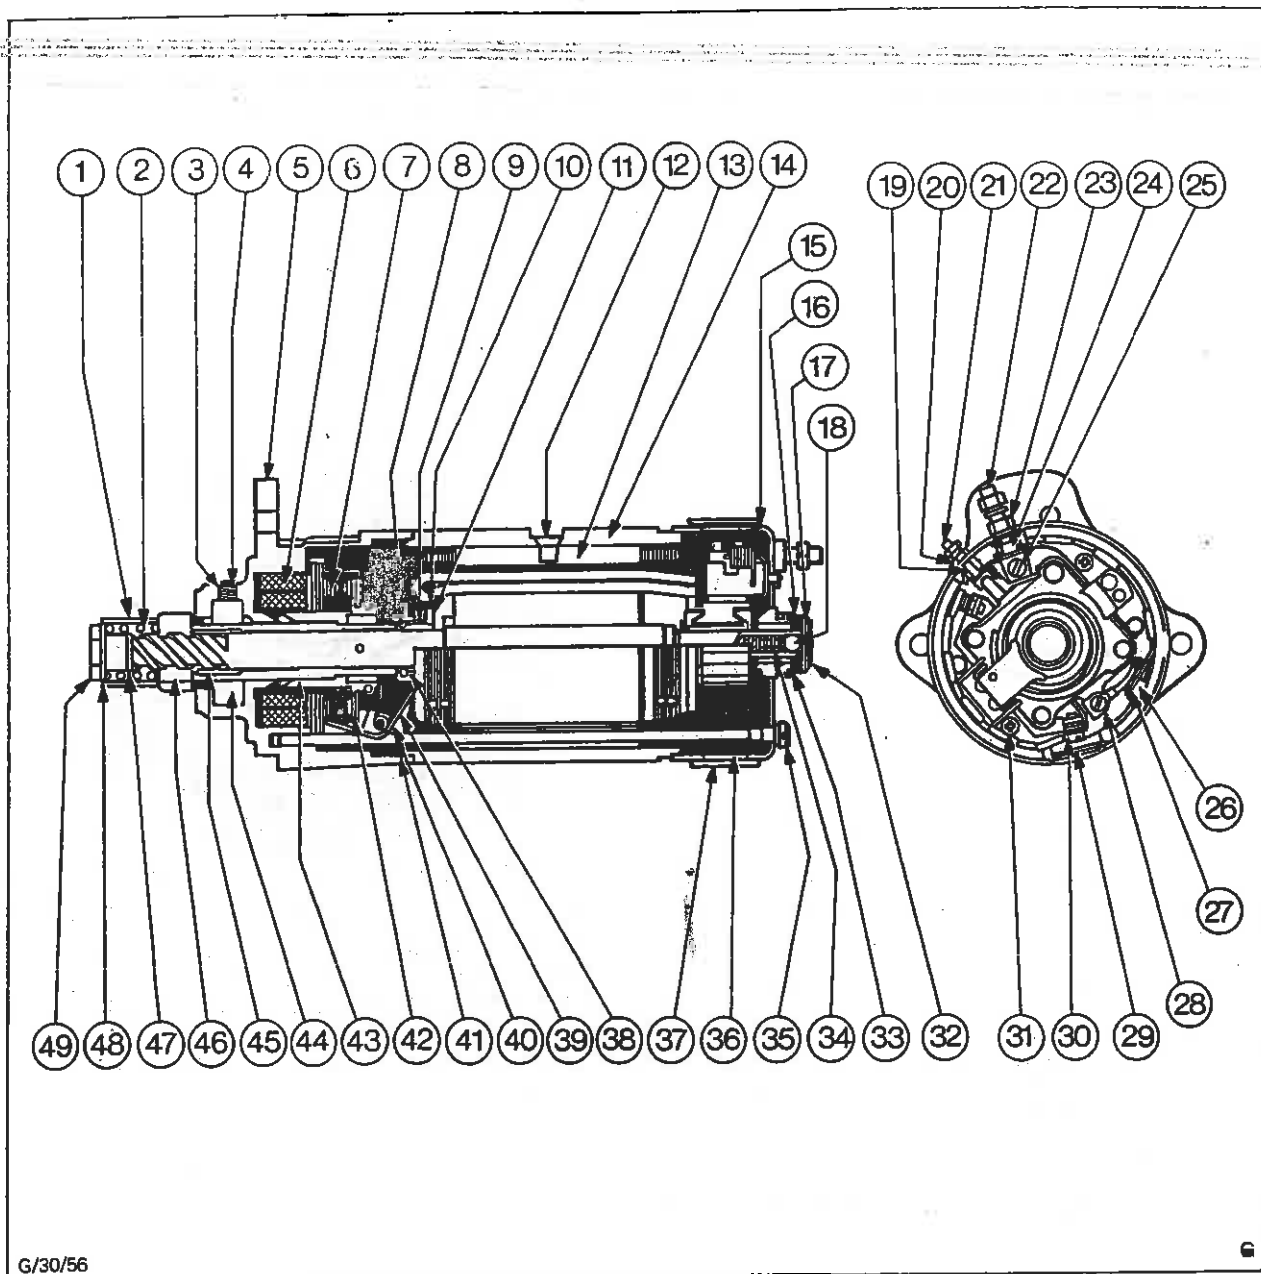

Fig. 15 - Sectional View of Starter
The figures in brackets relate to Fig. 15 unless otherwise stated.
NOTE: Do not fit the lubricator pad spring (3), Fig. 15 and core plug (4) at this stage, as pressure on the felt pad will prevent the pinion sleeve from being fitted.
1. Unscrew pole screws (12) Fig. 15 and remove the poleshoes (13) and windings, noting the position of the windings and poleshoes in order to facilitate re-assembly.